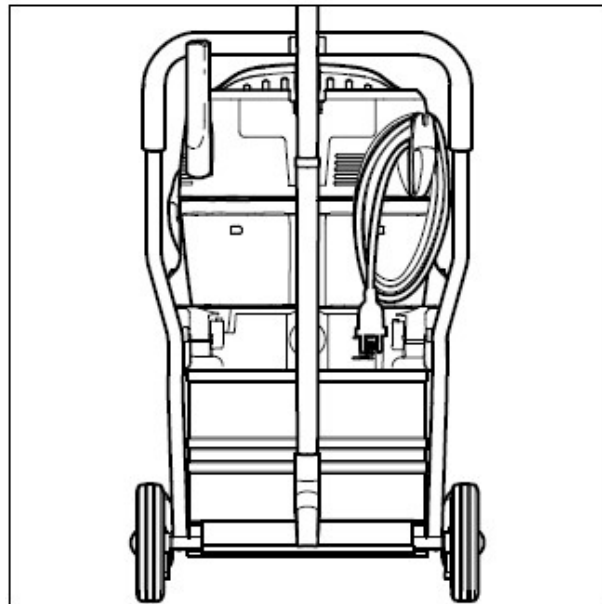

Fig 6.5 – Power cord storage
- Coil the power cord and hang on the hanger as shown in figure 6.5.